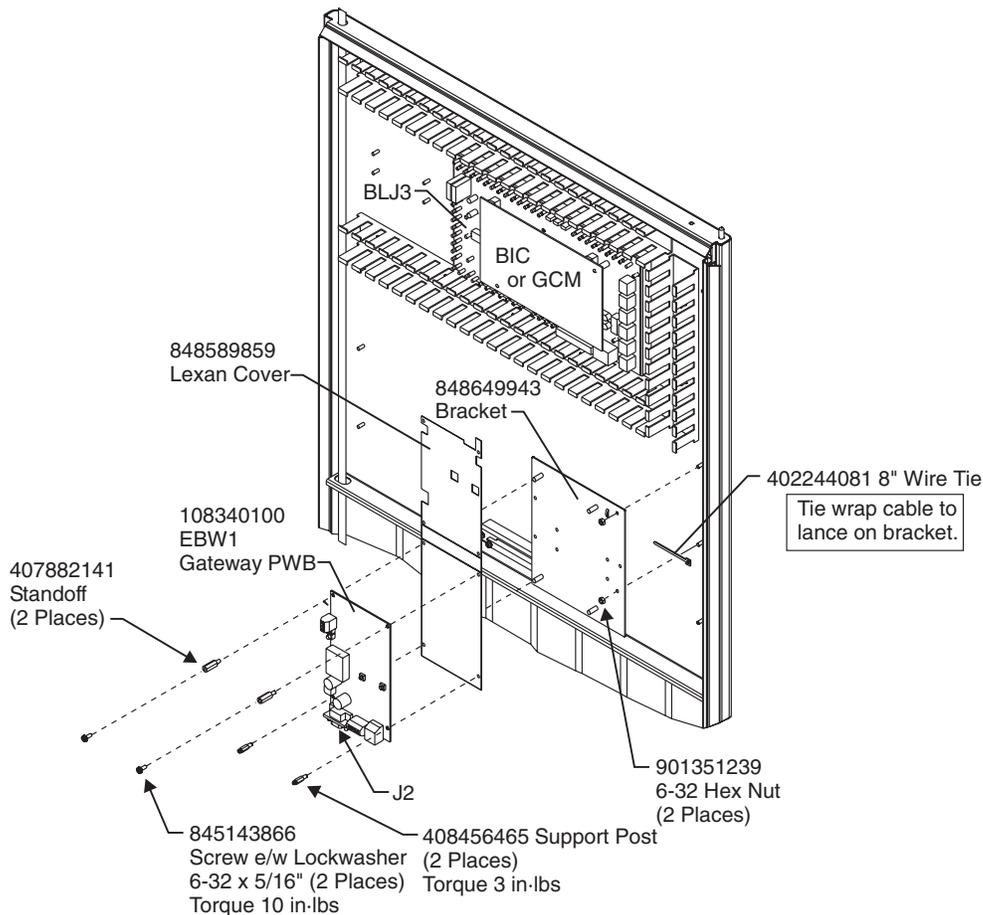
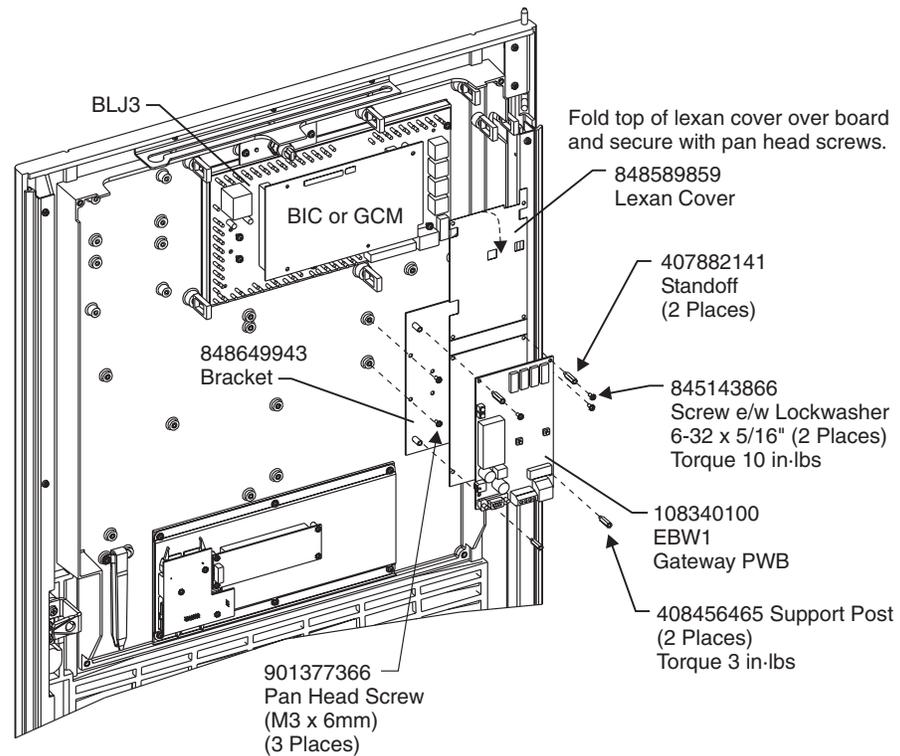

Figure A-2a: GPS with Metal Door and Vector Controller
Figure A-2b: GPS with Plastic Door (DA) and Vector Controller
Introduction This section describes the Galaxy Gateway installation and cabling procedures required in a Galaxy Power System (GPS) equipped with a Vector controller. Computer and Galaxy Gateway configuration is also addressed. GPS configurations consist of cabinets equipped with either a metal front door or a plastic front door. Figures A-2a and A-2b show the Galaxy Gateway installation for each configuration.
Use the following procedure and Figures A-2a and A-2b to install a new or replacement Galaxy Gateway on a GPS metal or plastic (DA) door.
1. Install 848649943 bracket to metal door and secure with two 901351239 hex nuts (6-32) per Figure A-2a or install to plastic door and secure with three 901377366 screws per Figure A-2b.